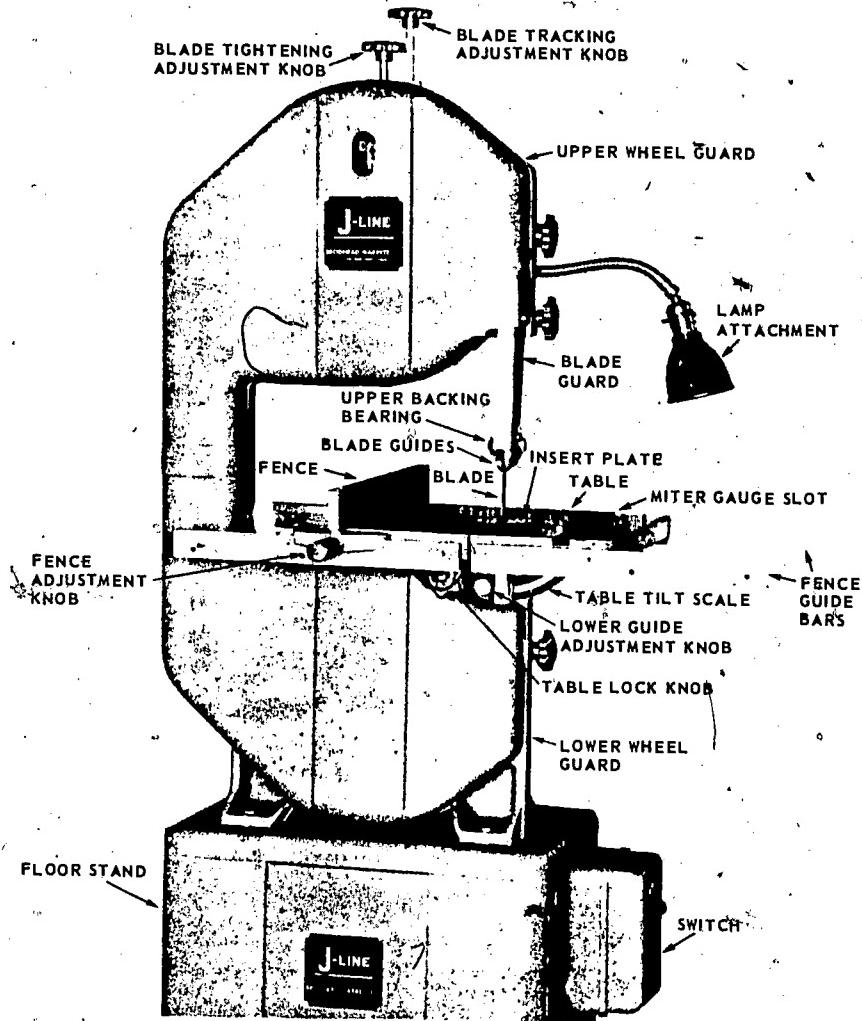

Fig. 5-13. Parts of a 14 in. bandsaw. (Brodhead-Garrett Co.)
**Bandsaw -** The bandsaw serves a wide variety of uses. You can make straight and curved cuts, freehand or with a guide. You can cut wood, plastic and metal. The blade of this saw is a continuous band which revolves on two wheels. The size of a bandsaw is determined by the diameter of the band wheels. The upper wheel is adjustable up and down to tighten or loosen the blade. It can be tilted forward and back to adjust tracking of the blade to the middle of the wheel. A 14 in. bandsaw is a popular size, figure 5-13.